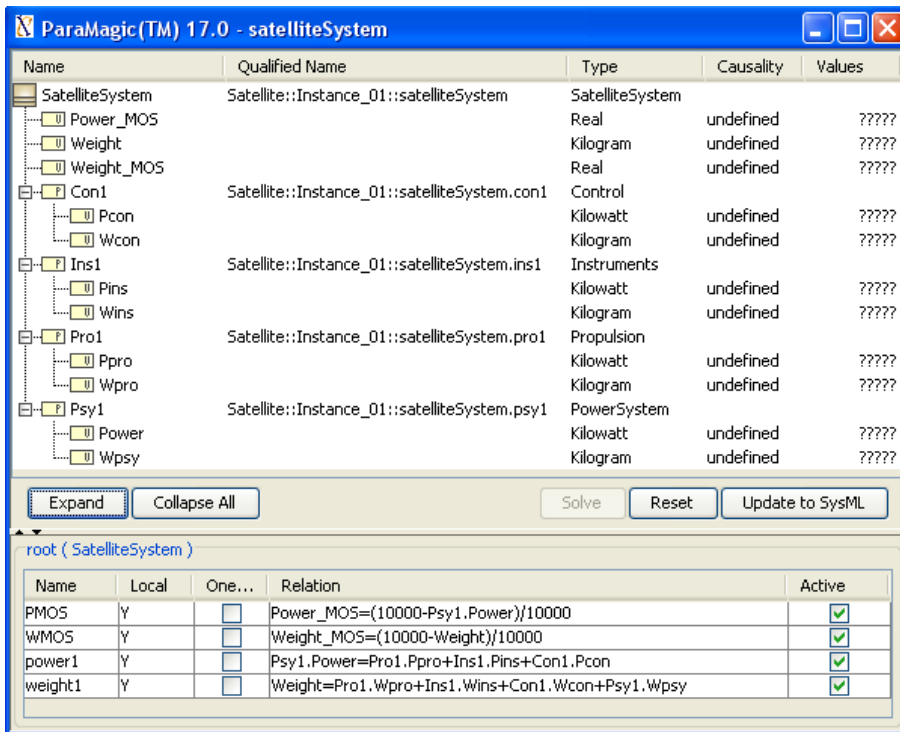

Figure 3.10 ParaMagic Browser for Instance_01, before solution
- iii. Click Reassign. This assigns *undefined* causality to variables without values and *given* causality to variables with starting values. At this stage, no variables have been assigned a value. The ParaMagic browser appears as in Figure 3.10